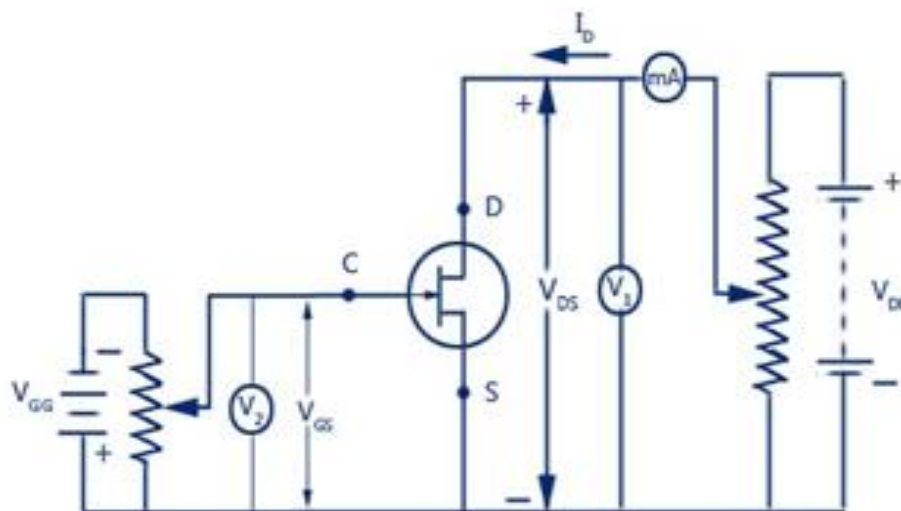

Fig. 4.5 Drain characteristics of JFET
- When a reverse voltage V_{GS} is applied between gate and source terminals, then width of depletion layer is increased which is shown in fig. 4.5.
- The circuit diagram is shown in fig. 4.5.